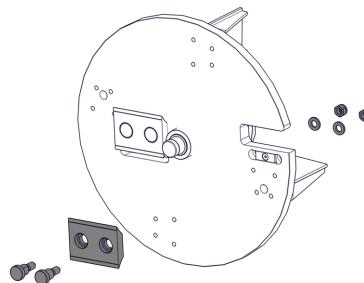

Figure 23 - Blade Mounting
15. Fit the blade to the rotor using the retaining bolts, washers and Nyloc nuts. The use of genuine Timberwolf blades and bolts is recommended (Figure 23).